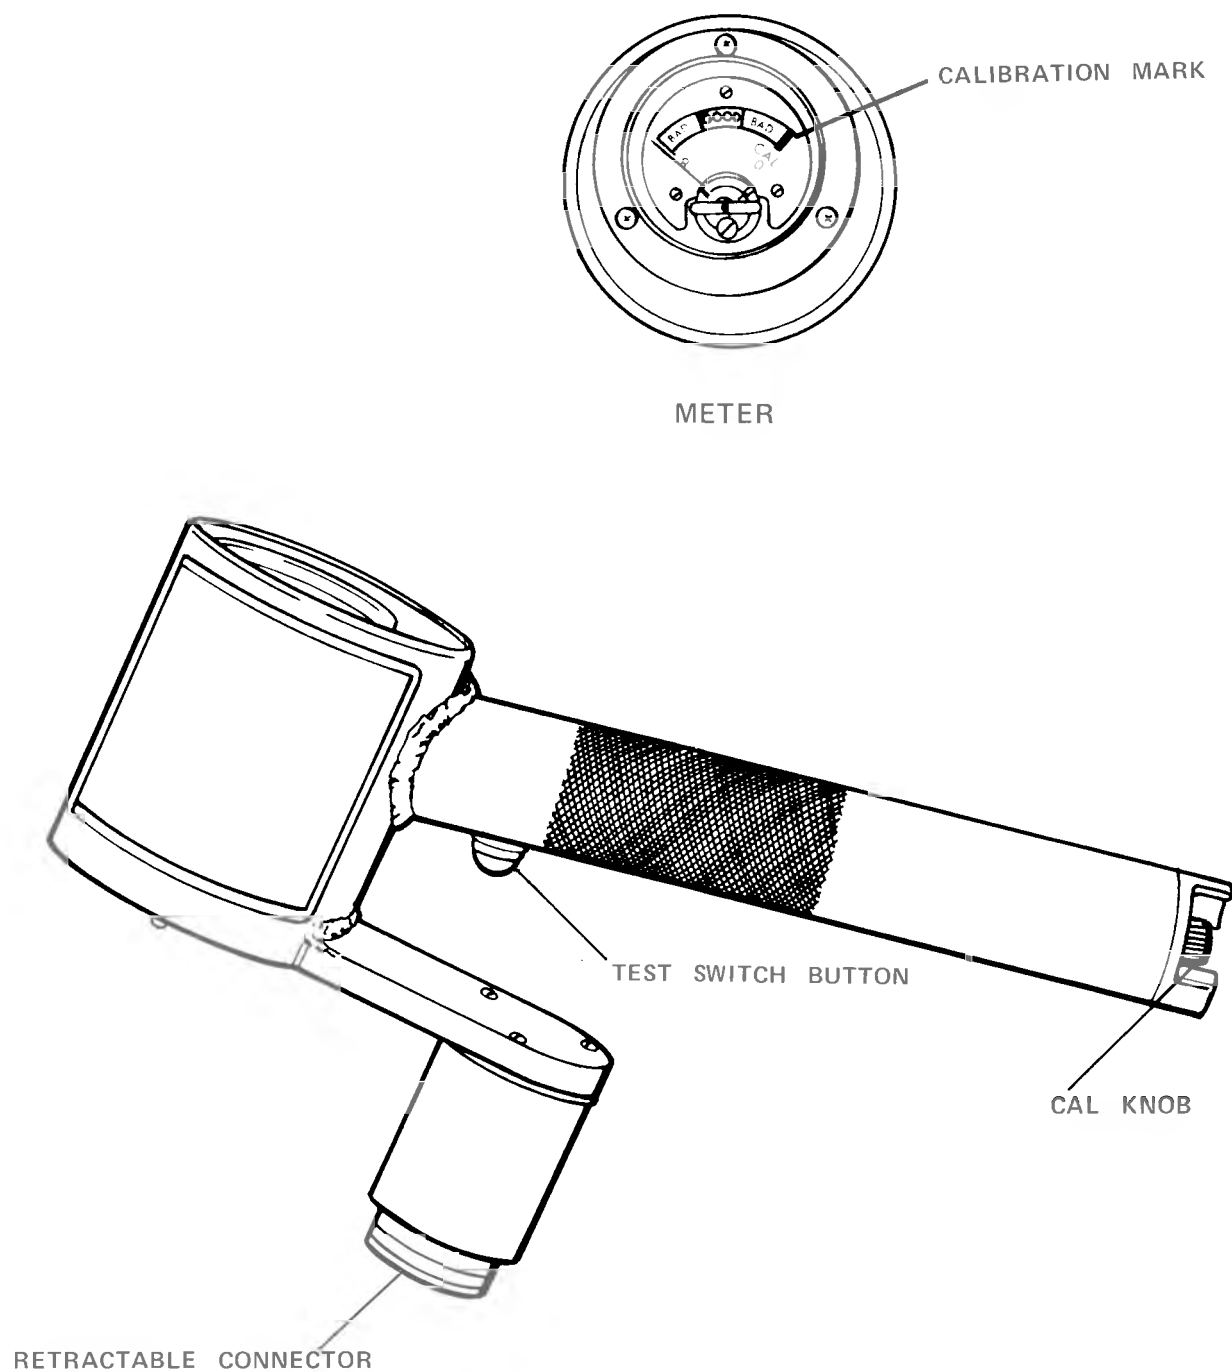

Figure 4-1. Test Set A/E24T-127
a. Depress test switch button (figure 4-1) on tester handle. Check that meter needle is centered on tester calibration line.
4. Insert connector end of test set firmly into charging well of bomb (figure 4-1) until connector is fully retracted.